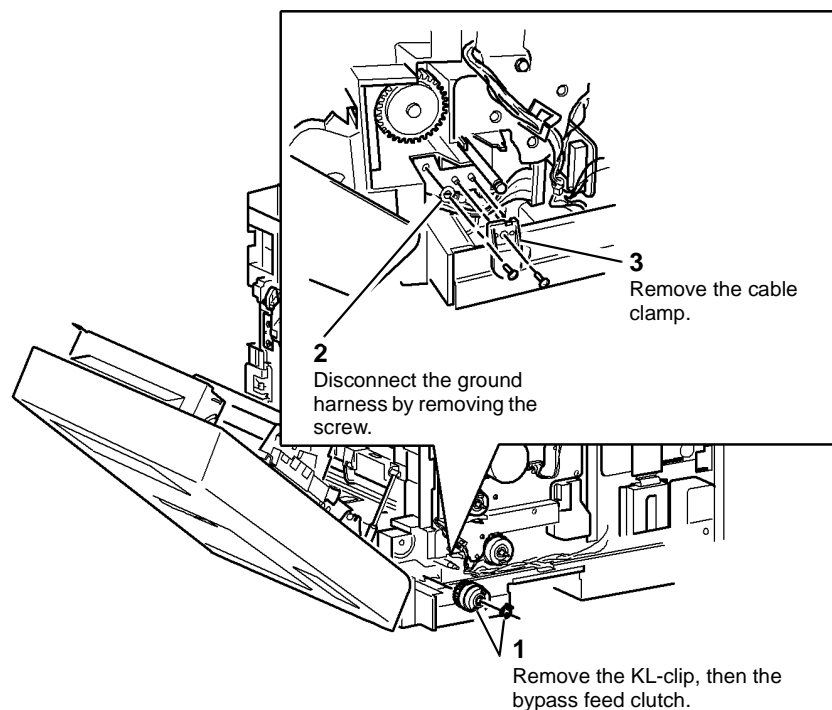

Figure 1 Removing the Bypass Feed Clutch and Cable Clamp
3. Remove the Bypass Feed Clutch and the cable clamp (Figure 1).